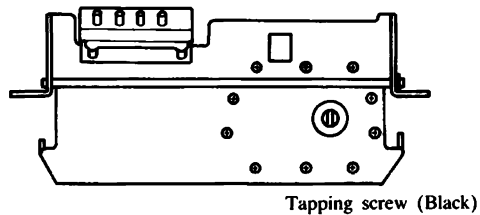

Fig. 14
- (2) Remove the ten screws (Round head 4×16) fixing the gear box on the head frame. (Refer to Fig. 14)